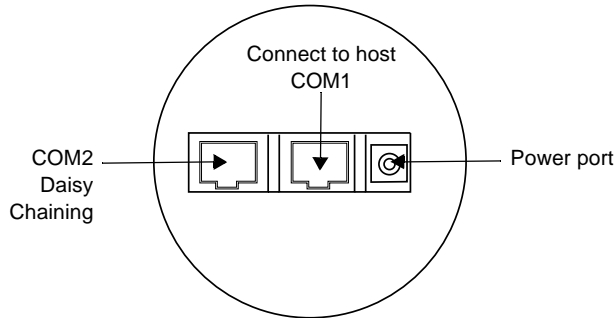
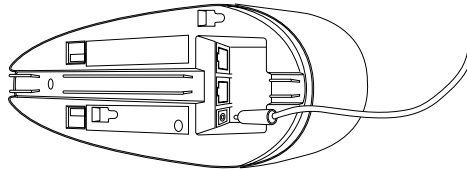

Figure 2-3. Ports on the Cradle
Figure 2-4. Power Supply Port
2. Connect the Synapse cable to the cradle COM1 port (see Figure 2-3 on page 2-4).
6. Connect the power supply to the cradle (see Figure 2-3 and Figure 2-4).